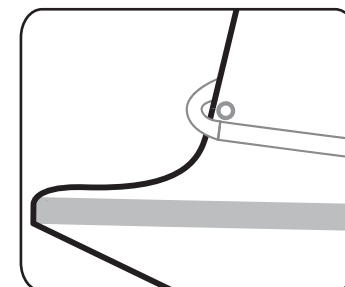

Fig. 5: Outhaul to the end of the boom.
- d) Finally, outhaul your sail to the end of the boom (fig. 5).